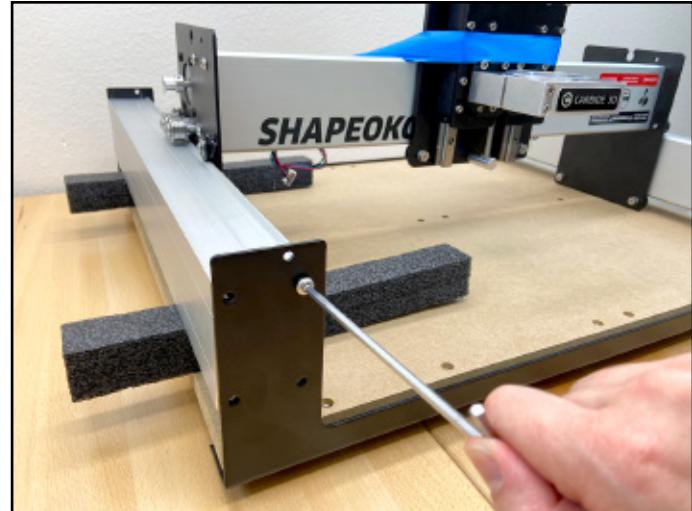

Figure 4-8
1. Prop up the Y1-rail with the two long foam packing blocks from the X/Z+ box. See **Figure 4-8**.
2. Align the **UPPER-INSIDE** screw holes of the Y1-rail with the same through-holes of the **FRONT** and **REAR** endplates. See **Figure 4-8**.
3. Use the 4mm hex key and two (2) M6x12mm button head cap screws to loosely attach the Y1-rail to the **UPPER-INSIDE** holes in the front and rear endplates. See **Figure 4-8**.